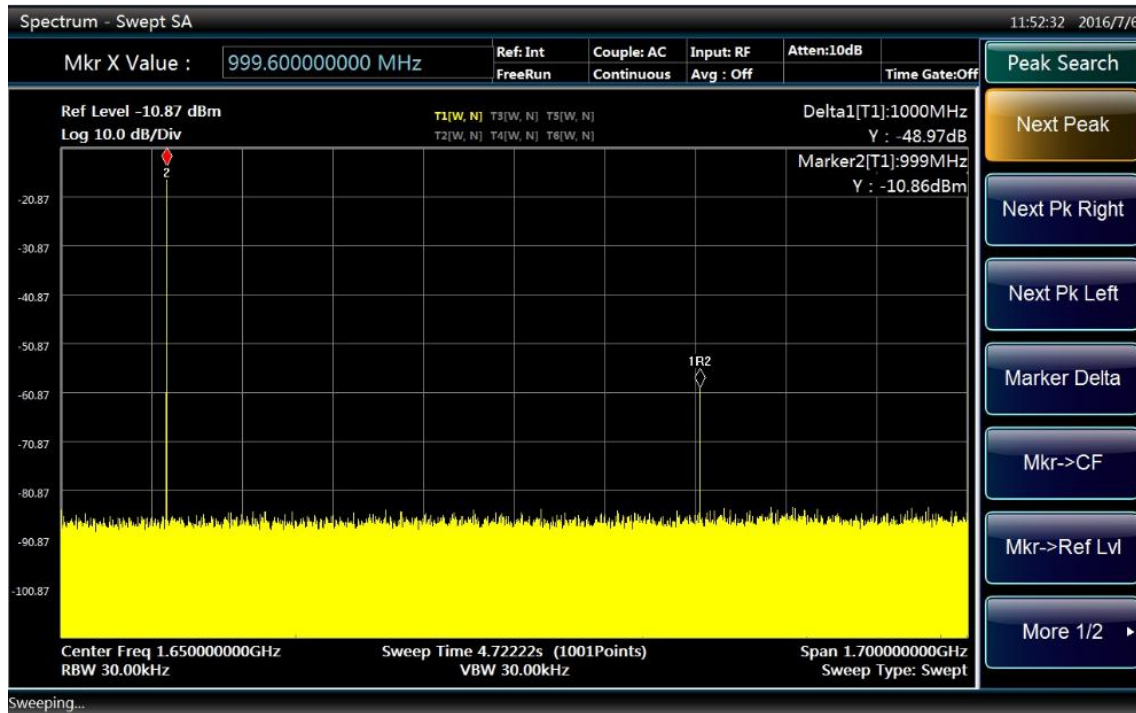

Fig. 4.19 Display interface of second harmonic measurement with delta marker
- Press [Peak Search] and [Next Peak]. At this time, the fixed marker is indicated on the fundamental wave and the active marker is at the peak of the second harmonic as shown in Fig. 4.19.